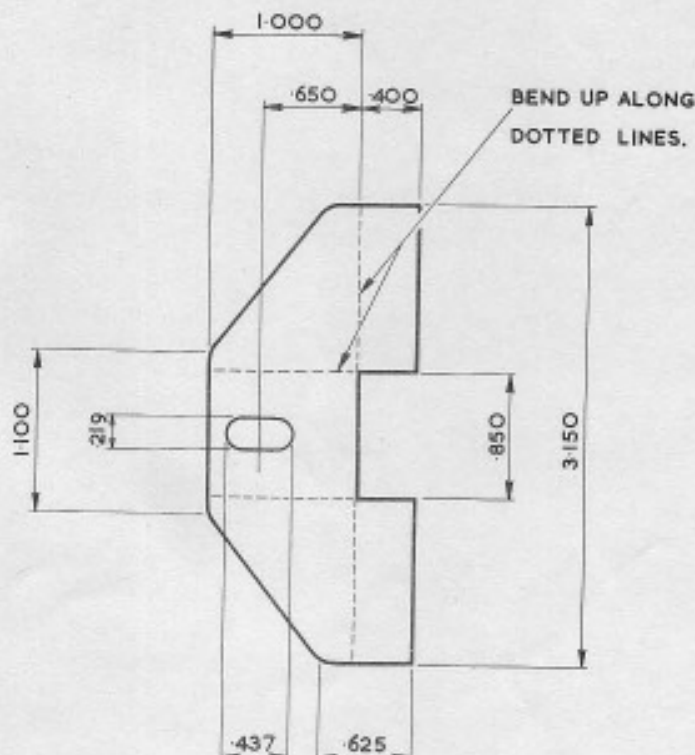

FIG. 1.
- (b) Make up new brackets as detailed in Fig.1 using 18 gauge sheet steel, and bend as indicated.